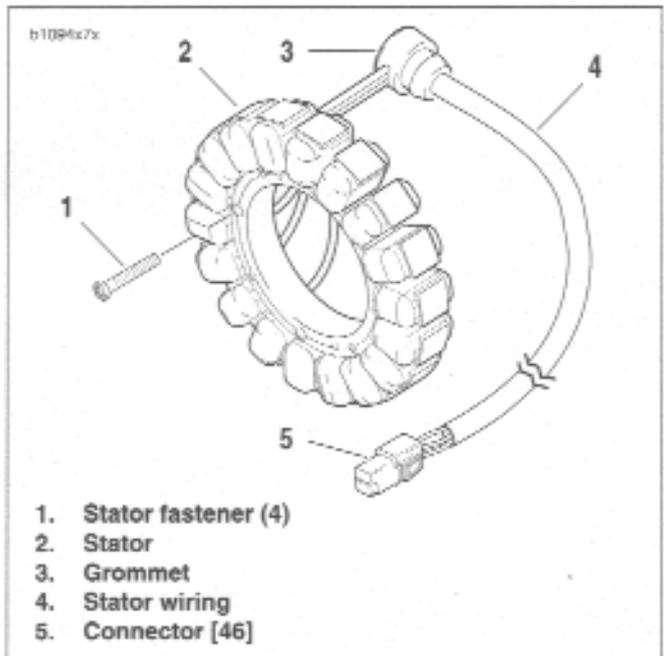

Figure 7-31. Stator Assembly
1. See Figure 7-31. Disconnect stator wiring (4) from voltage regulator wiring at connector (5) [46] under sprocket cover. See 7.24 SPROCKET COVER WIRING.
1. See Figure 7-31. Feed stator wiring (4) with attached grommet (3) into open grommet hole in left crankcase half.